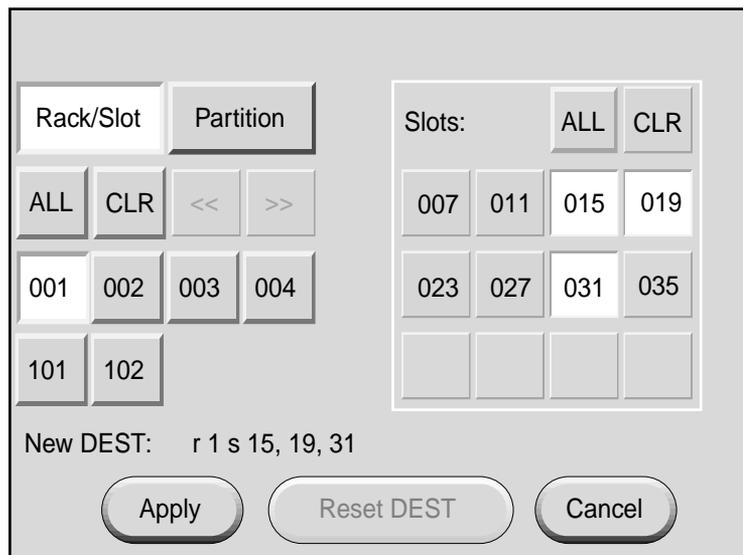

Figure 8-14 Targeting Multiple Bricks in Rack
To select multiple bricks within a rack, see Figure 8-14 and follow these steps:
2. Press the button for the rack (for example, Figure 8-14 shows rack 001 selected).
3. Press the buttons for the desired slots (for example, Figure 8-14 shows the bricks in slots 015, 019, and 031 selected).
The new destination is reflected in the destination field near the bottom of the display window. For example, Figure 8-14 shows rack 001, slots 015, 019, and 031 (r1 s15, 19, 31) as the destination.